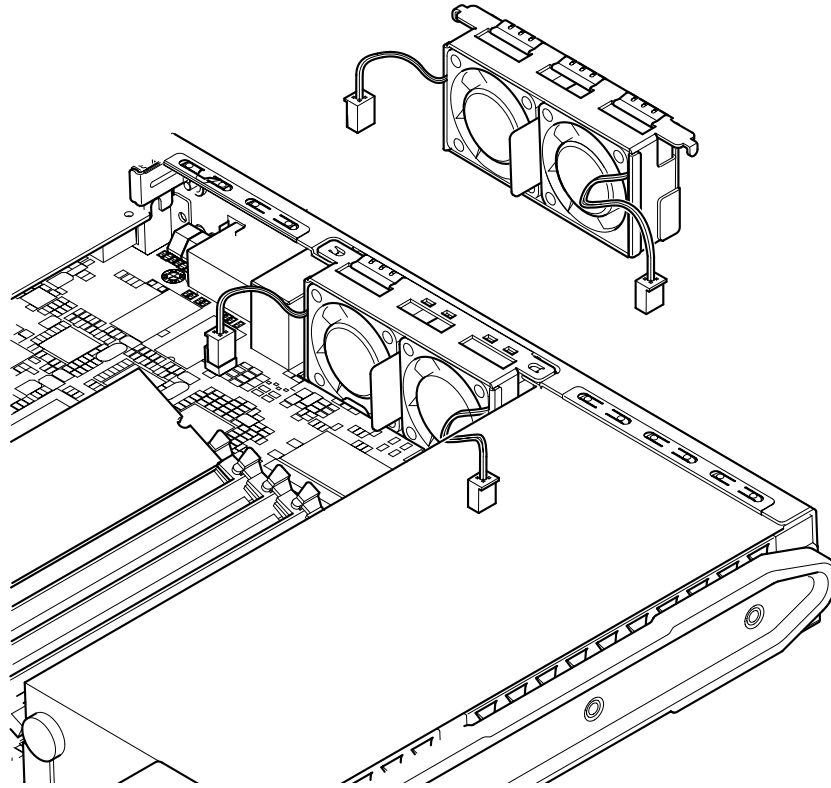

FIGURE 11-10 Replacing the Rear Fan Subassembly (Fans 1 and 2)
2. **With the server open and seated on top of an ESD pad, and with a properly grounded antistatic wrist strap on your wrist, disconnect the old subassembly’s power cables from the system board (see FIGURE 11-10).**
5. **Connect the fan cables to the system board (see FIGURE 11-10).**